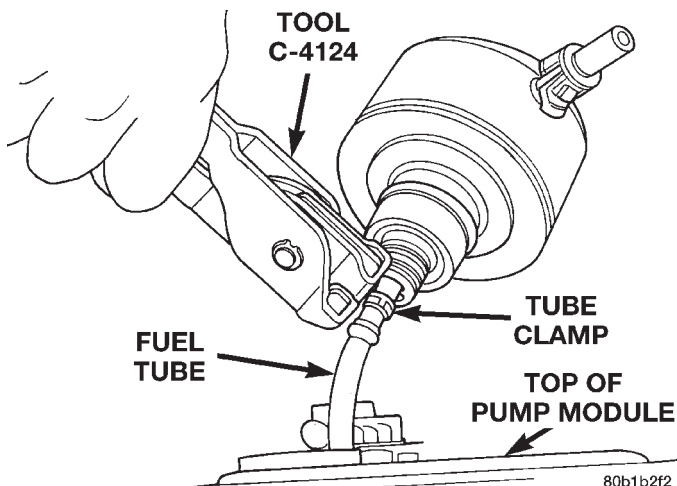

Fig. 24 Tightening Fuel Filter Tube Clamp—TYPICAL FUEL PUMP MODULE
(1) Install a new clamp over plastic fuel tube.
(2) Install filter/regulator to fuel tube. Rotate filter/regulator in fuel tube (line) (Fig. 24) until it is pointed towards front of tank (or front of vehicle).
(3) Tighten line clamp to fuel line using special Hose Clamp Pliers number C-4124 or equivalent (Fig. 24). **Do not use conventional side cutters to tighten this type of clamp.**
(4) Press filter/regulator (by hand) into rubber grommet.